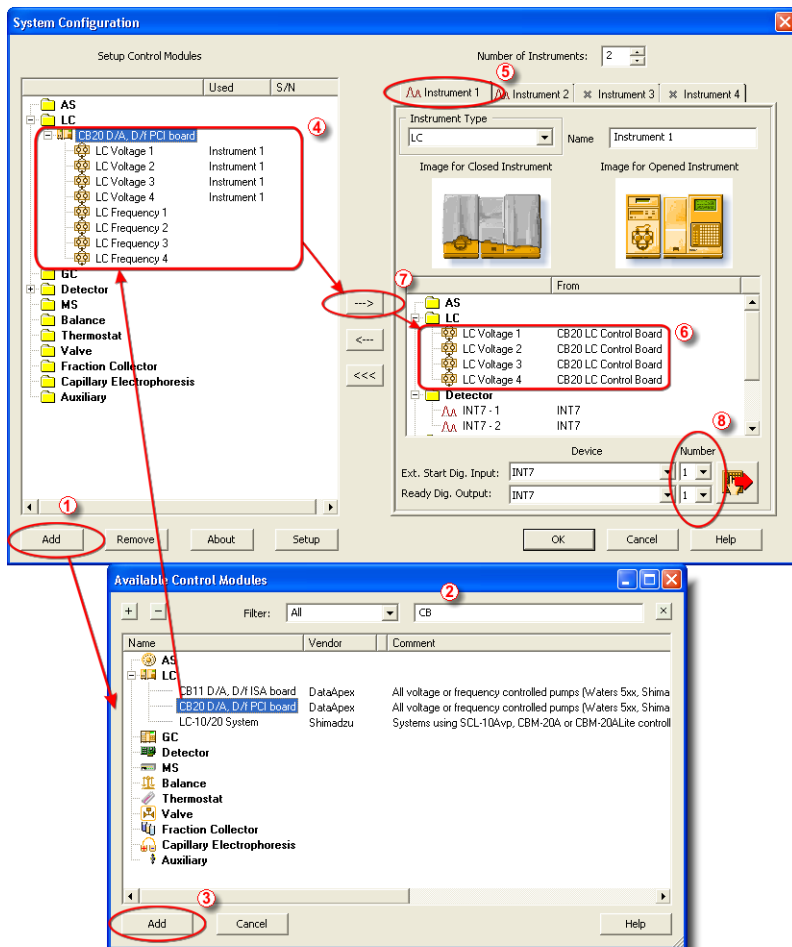

Fig 2: System Configuration
- Press the **Add** button ① (see **Fig 2** on pg 4.) to invoke the **Available Control Modules** dialog.
- You can specify the searching filter ② to simplify the finding of the driver.
- Go to the **LC** section, select the **CB20 D/A, D/f PCI board** and press the **Add** button ③.
The **DataApex CB-20 Setup** dialog sets the parameters of the **CB20 LC** control board. The dialog is accessible only from the **System Configuration** dialog, please see **Fig 2** on pg 4.